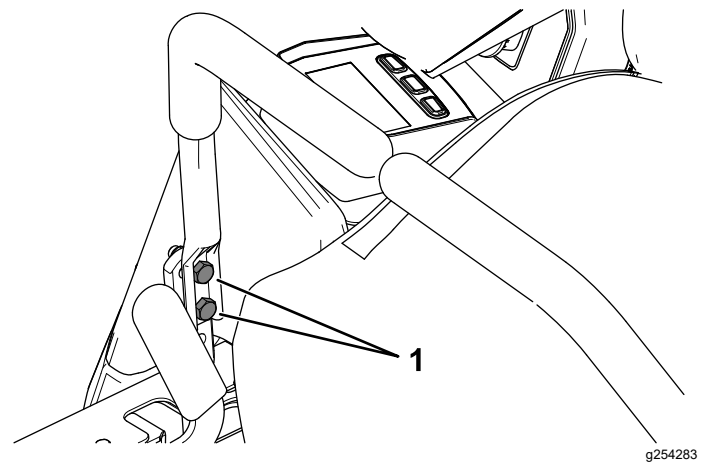

Figure 52
12. Tighten the 2 motion-control lever mounting bolts (Figure 52).
10. If alignment is needed, loosen the 2 motion-control lever mounting bolts on the misaligned side (Figure 52).